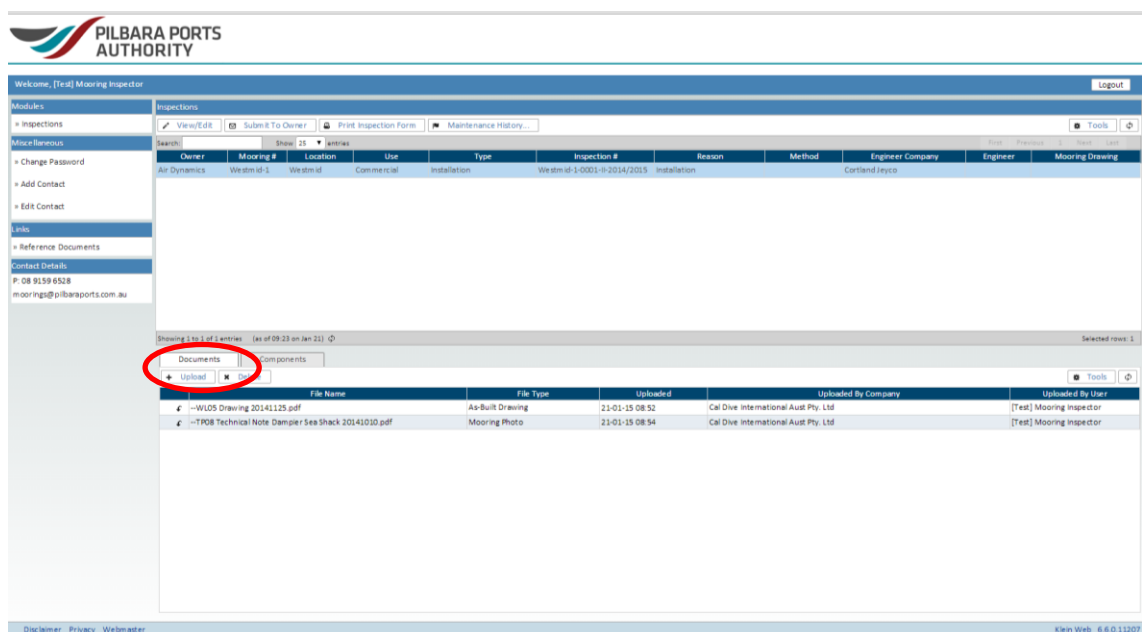

Figure 4.2
- To view documents To Edit refer to section 4.1 and figure 4.2 (points to 'Documents' tab)